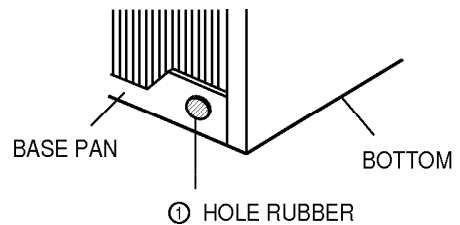

Figure 18
If the air conditioner is used in a hot and high humidity zone, exchange the ① HOLE RUBBER for the ② DRAIN PIPE. (See figure 18, figure 19.)